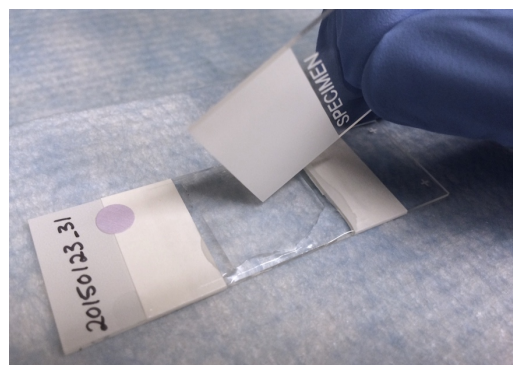

Figure 8. Pressing down the cover glass with a corner of a glass slide.
- Use the clean tip of a glass slide to *gently* press down once in the middle of the cover glass (Figure 8). Avoid anything that could cause the cover glass to be tilted.